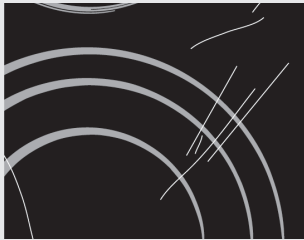

Figure 1
After each use of the **glass-ceramic hob**, wait for it to **cool down** and clean it; otherwise, even the smallest food residue will be burnt onto the hot surface next time you use the appliance. **For regular cleaning and maintenance of the glass-ceramic surface, use special conditioning agents** which form a protective layer on the surface, shielding it from dirt. Before each use, wipe any dust or other particles from the hob surface and pan bottom as these could scratch the surface (Figure 1).
**Careful:** steel wool, abrasive sponges, and abrasive detergents can scratch the hob surface. Glass ceramic surface can also be damaged by aggressive sprays and inappropriate or insufficiently shaken (mixed) liquid cleaning agents (Figure 1 and Figure 2).